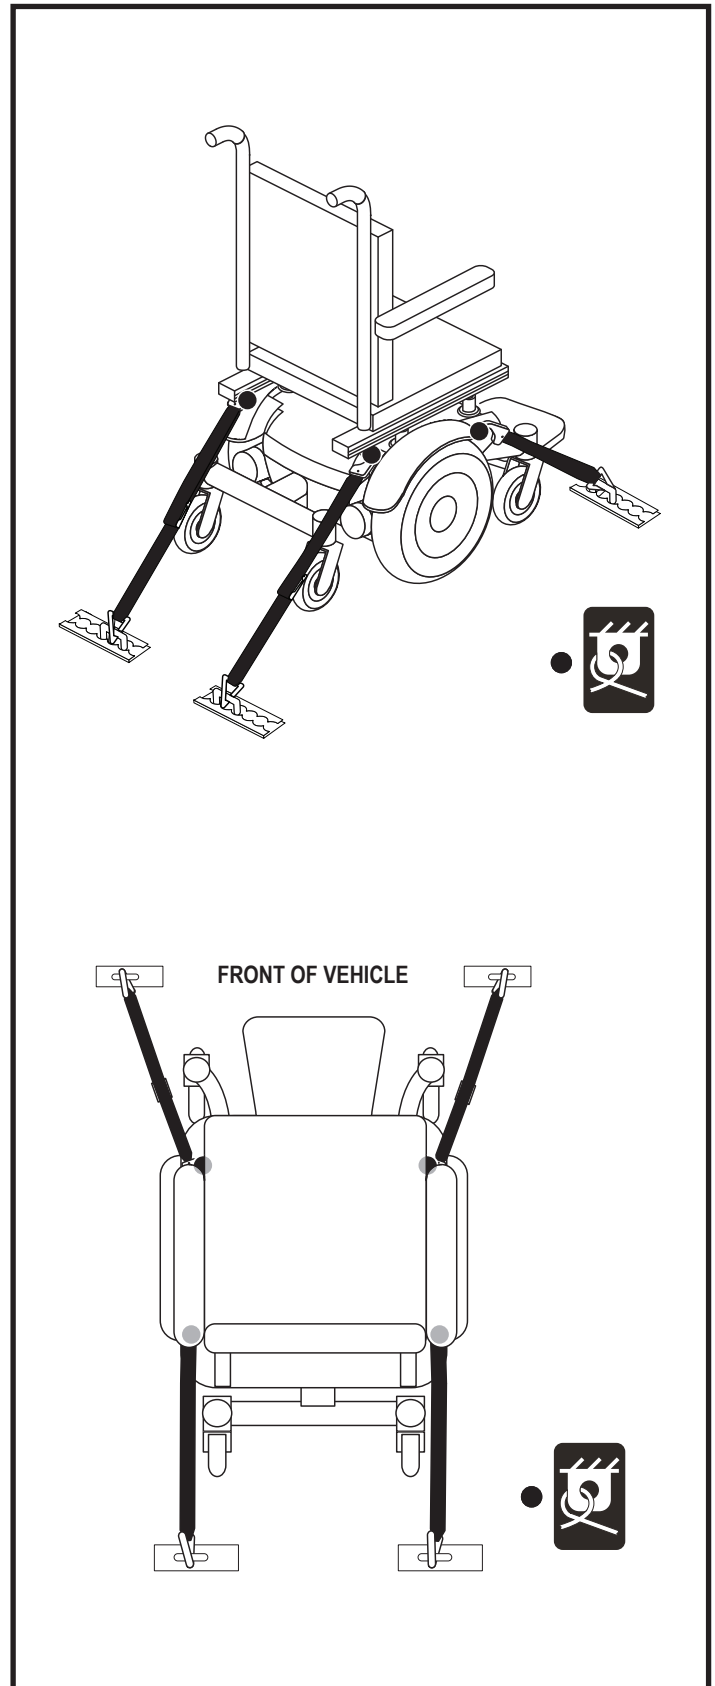

Figure 7. Unoccupied Transit System Securement Points
- Position the anchor points for the rear tie-down straps directly behind the rear securement points on the power chair. The front tie-down straps should be anchored to floor points that are spaced wider than the power chair to provide increased stability. See figure 7.